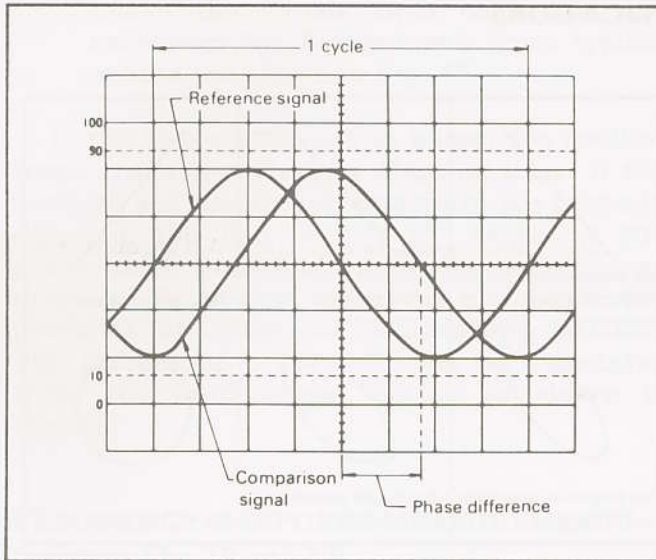

Fig. 15. Phase Difference Measurement.
(Refer to Fig. 15)
3. Use the vertical POSITION controls to position the waveforms in the vertical center of the screen. Use the SWEEP TIME/DIV and VARIABLE controls to adjust the display so one cycle of the reference signal occupies 8 divisions horizontally (see Fig. 15). The trigger LEVEL and horizontal POSITION controls are also useful in achieving this display. The display should be as shown in Fig. 15, where one division now represents 45° in phase.
For the example shown in Fig. 15, the horizontal distance is 1.7 divisions. Thus, the phase difference is calculated as follows: